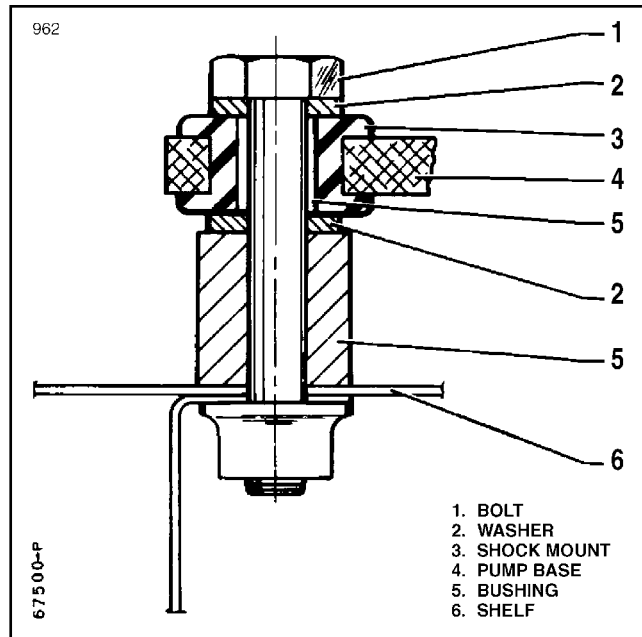

Figure 6-5. Pump Shock Mounts
- b. Position the pump on its mounting flange. Install mounting bolt with washer and tighten. (Refer to Figure 6-5.)